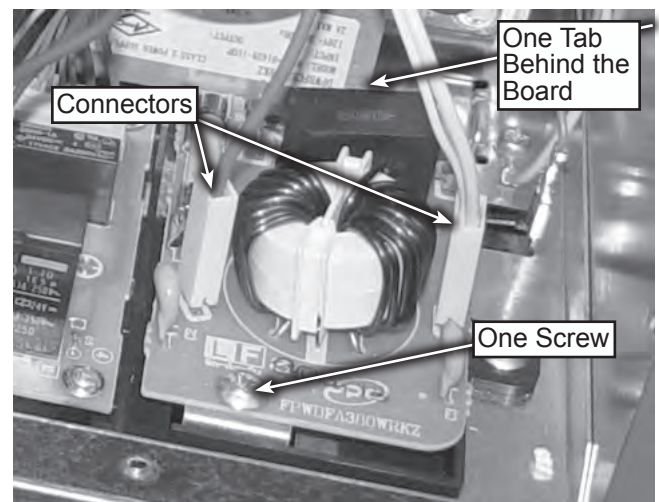

Figure 2
7. Disengage two tabs that hold the board in place, see figure 2.
10. Disengage one tab that holds the board in place, see figure 2.
11. Remove the noise filter board to allow access to the switching regulator board, see figure 2.